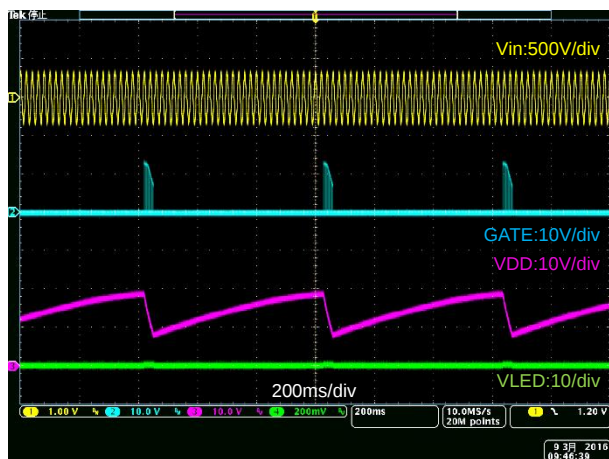

Fig. 11: LED SHORT waveform (Vin=230VAC)
The operations that take place in the LED SHORT state are given in ① to ④ below.(Refer to Fig. 11)